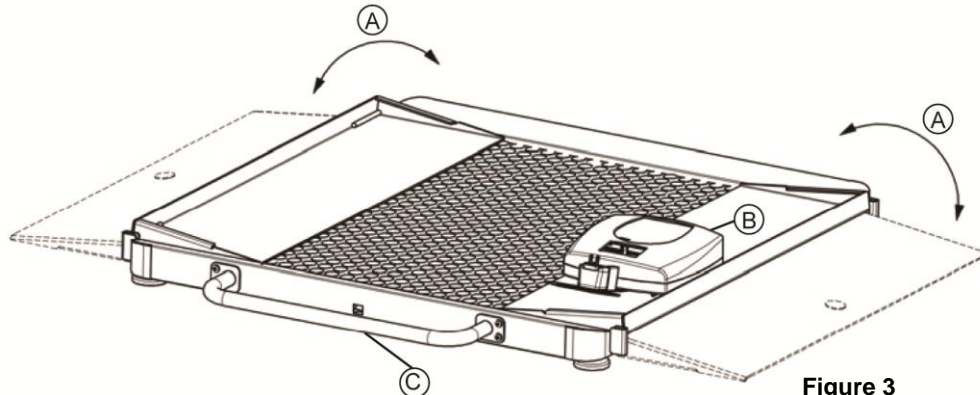

Figure 3
1. Fold both ramps--left and right (A) onto the platform while the scale is on the floor (see Figure 3).
2. Place the indicator (B) onto the pins on one of the folded ramps by sliding the slots that are on the back of the indicator onto the raised pins.